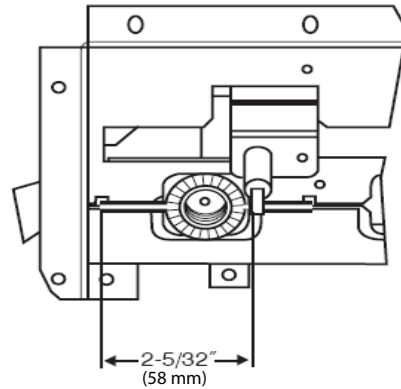

Fig. 14 - Igniter
11. If furnace fails to ignite properly, verify position of igniter (See Fig. 14) by removing the burner box assembly according to instructions in Step 4. After verifying and/or adjusting the location, re-install the burner box assembly according to the instructions in Step 4. Repeat igniter operation test in item 10.